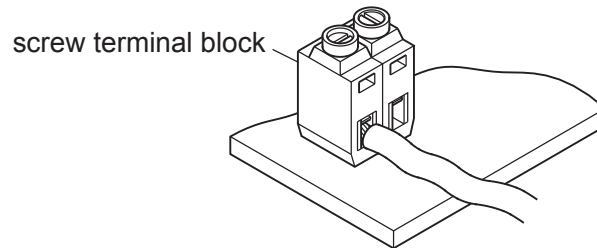
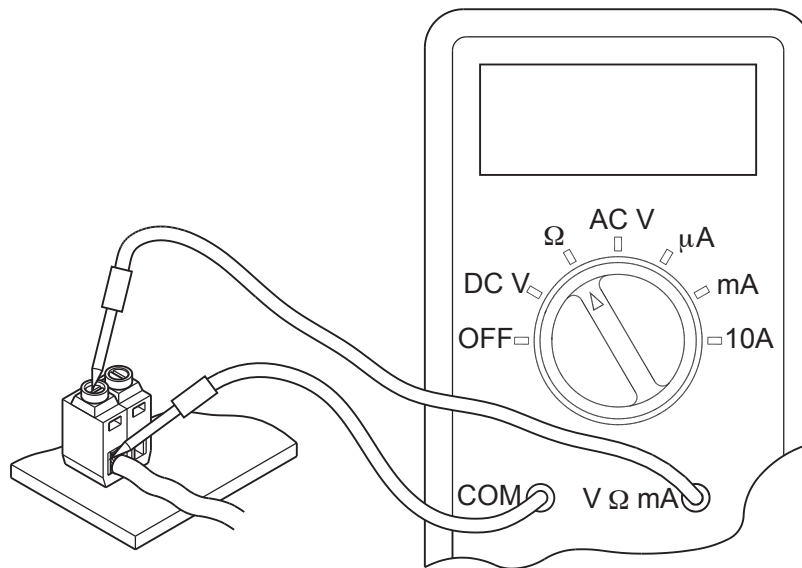

Fig. 12.2
Fig. 12.3
- (b) Fig. 12.2 shows one method of forming an electrical connection in a circuit.
- (ii) Fig. 12.3 shows a multimeter that will be used to test the connection between the terminal block screw and connected wire in Fig. 12.2.